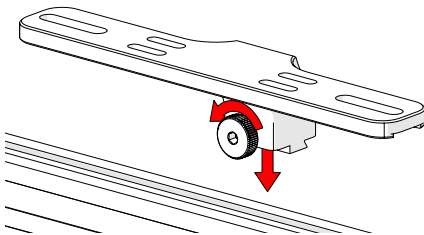

Fig. 210 - Loosen knob and mount to dovetail groove
1. Loosen the knob and align with the dovetail groove (*Fig. 210*).